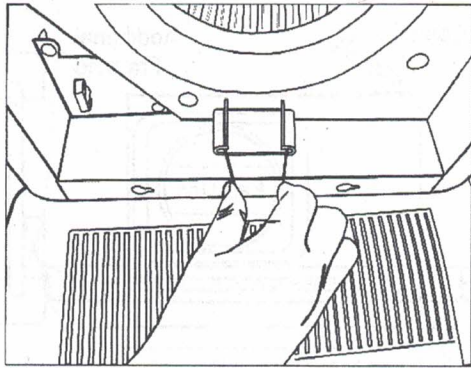

Figure 9 : Squeeze the spring to install grille
- i) Squeeze the grille springs and insert them into the slots on the two sides of the fan housing. (Figure 9)